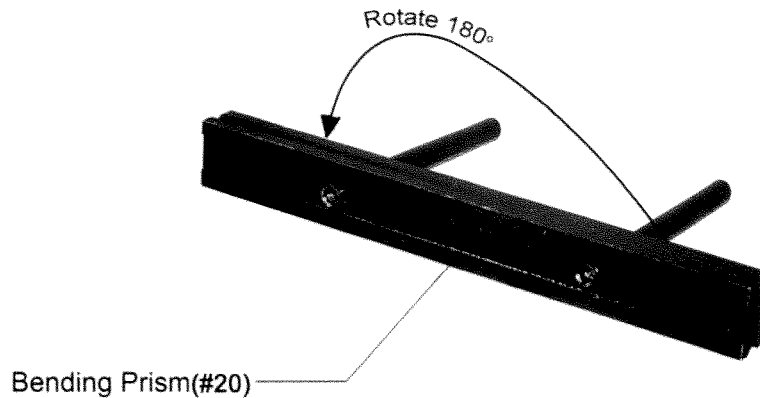

Figure5 - Rotaing the Bending Prism
Step 4: Rotate the BENDING PRISM 180° to use the optional radius as shown in Figure 5. Fit the BENDING PRISM back into the groove.